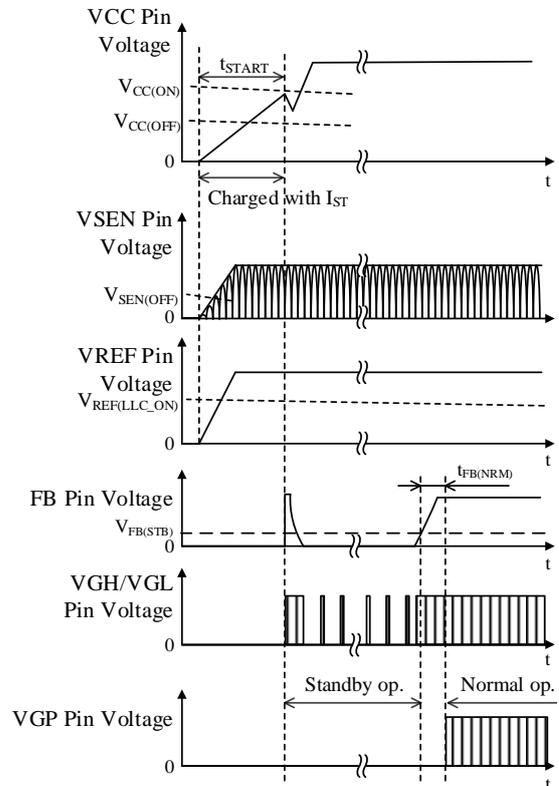

Figure 8-9. Operational Waveforms at Startup
t_{START} is a period of time until an internal control circuit starts operating (see Figure 8-9), and is determined by the capacitance of C13. The approximate startup time, t_{START} , can be calculated by Equation (2) below: